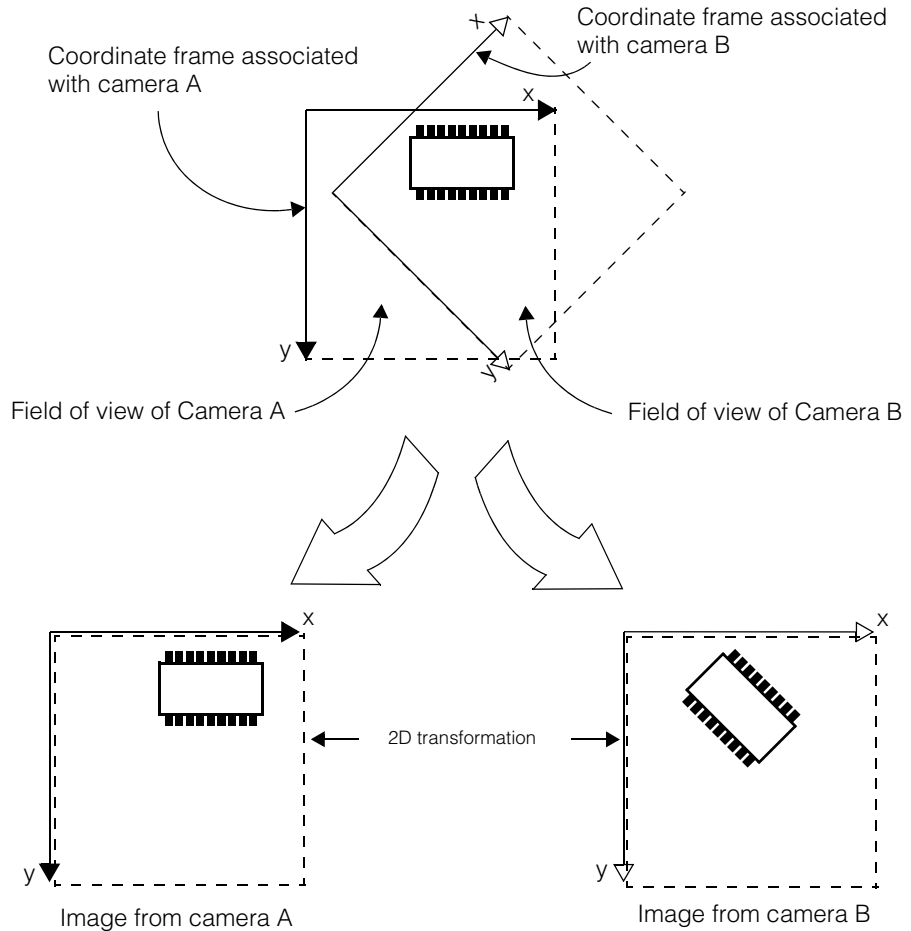

Figure 105. Mapping data between two coordinate frames
3. A transformation can be used to map data measured in two different coordinate frames. For example, imagine that the machine mentioned above has no moving parts at all, but has two cameras instead. In this case, the transformation can be thought of as describing the fixed relationship between the two cameras. It allows you to express the shape as seen from one camera in terms of its appearance in the other camera. In Figure 105 the two cameras are translated and rotated with respect to each other and you can use a 2D transformation to map image features in camera A to the corresponding features in camera B.